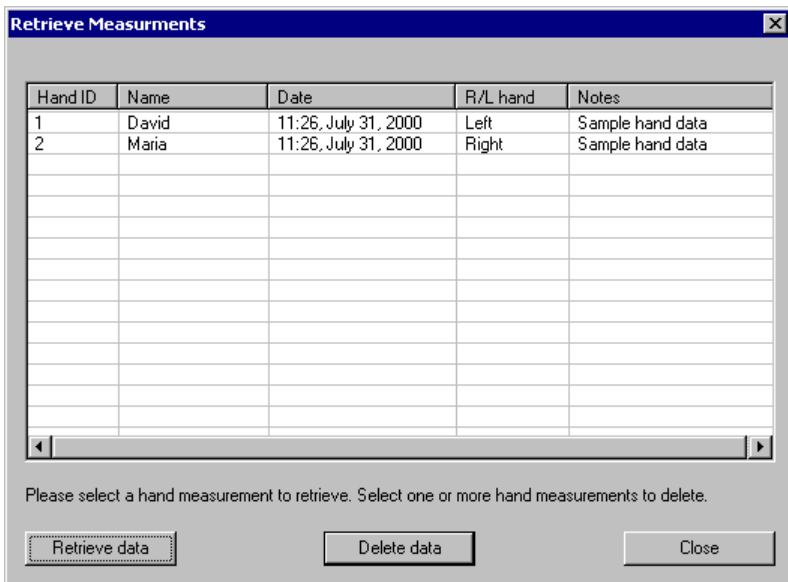

Figure 5. Retrieve Measurements Dialog Box
1. From the File pop-up menu, choose the Retrieve Measurements option. The Retrieve Measurements dialog box will appear (see Figure 5) containing a list of recent measurement records. Records include five fields: Hand ID, Name, Date, R/L hand and Notes.